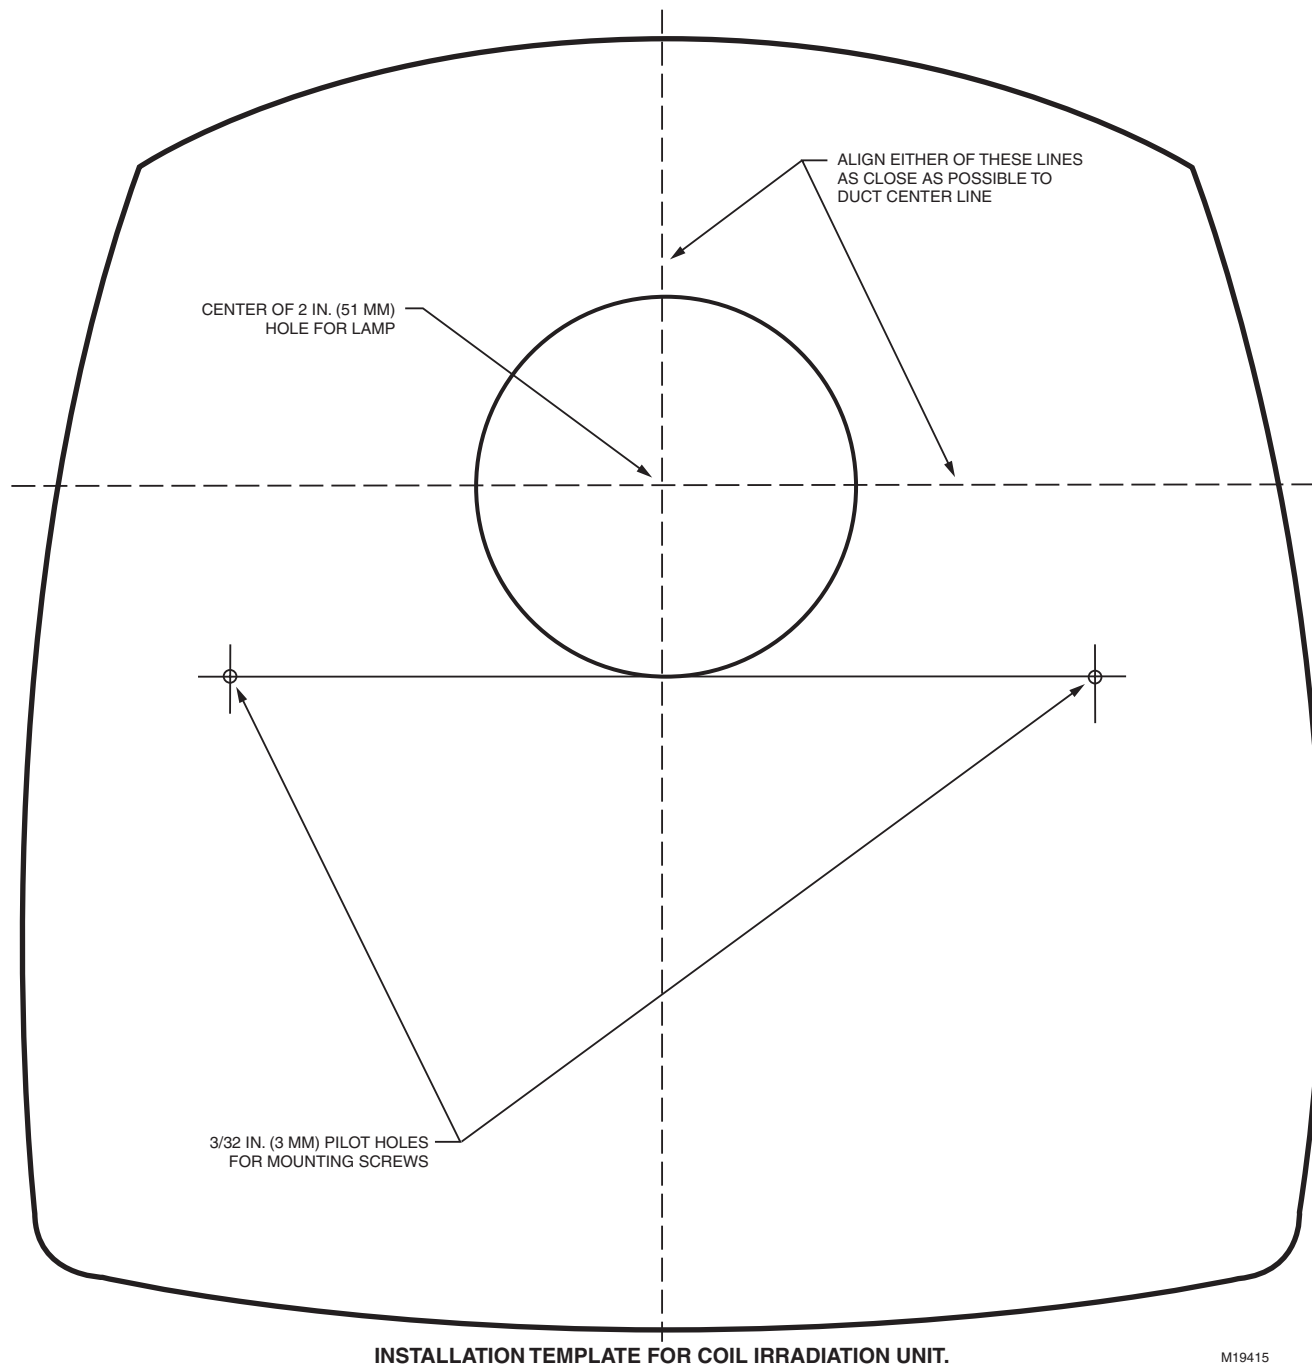

Fig. 3. Ultraviolet Coil Irradiation Air Treatment System template.
3. Place the template on the duct surface, centering the lamp hole on the duct. See Fig. 3.